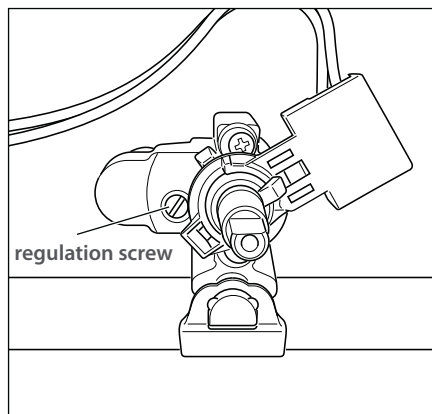

Fig. 15a Adjusting the minimum burner setting—semi-rapid and triple-ring wok burners
- 4 Using a small flat screwdriver, turn the screw (see Fig.15a) to the correct regulation.